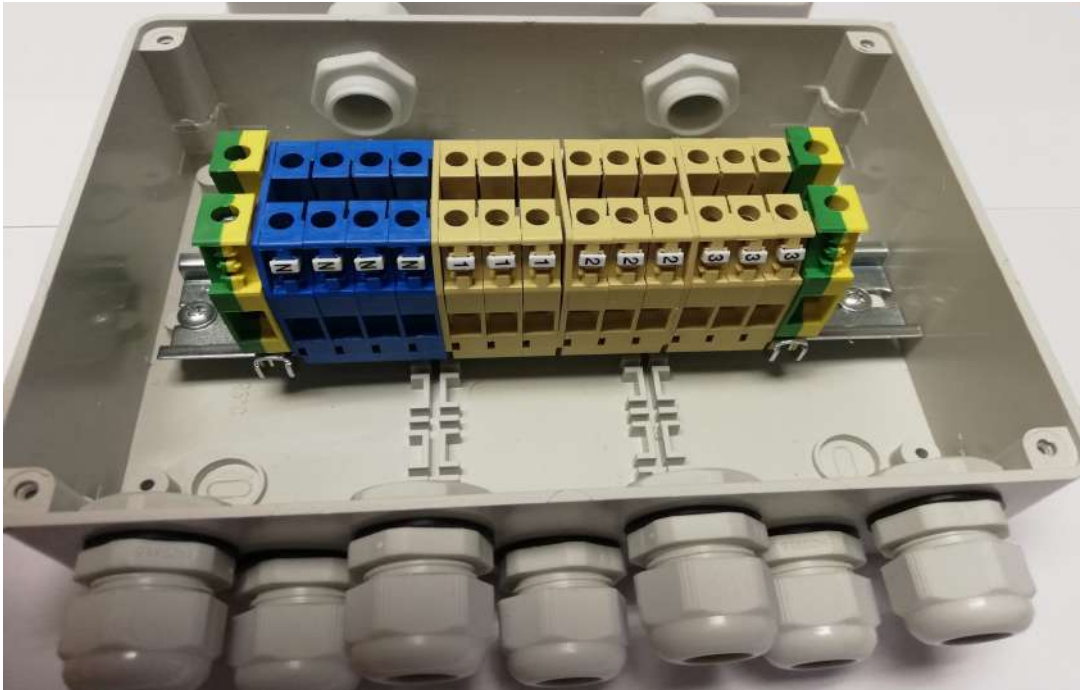

Fig 6
- b) Connect to an external distribution box. Connect O/P1 to terminals marked **1**, O/P2 to terminals marked **2** and O/P3 to terminals marked **3**. Connect the Neutral OUT to the blue terminals marked **N**. Connect the Earth to the green/yellow **Earth** terminals. Then connect the heaters to the other side of the terminals to the appropriate connections. **Live** connections to terminals **1,2&3**. **Neutral** connections to blue terminals **N** and **Earth** connections to the **Earth** terminals. See fig 6.